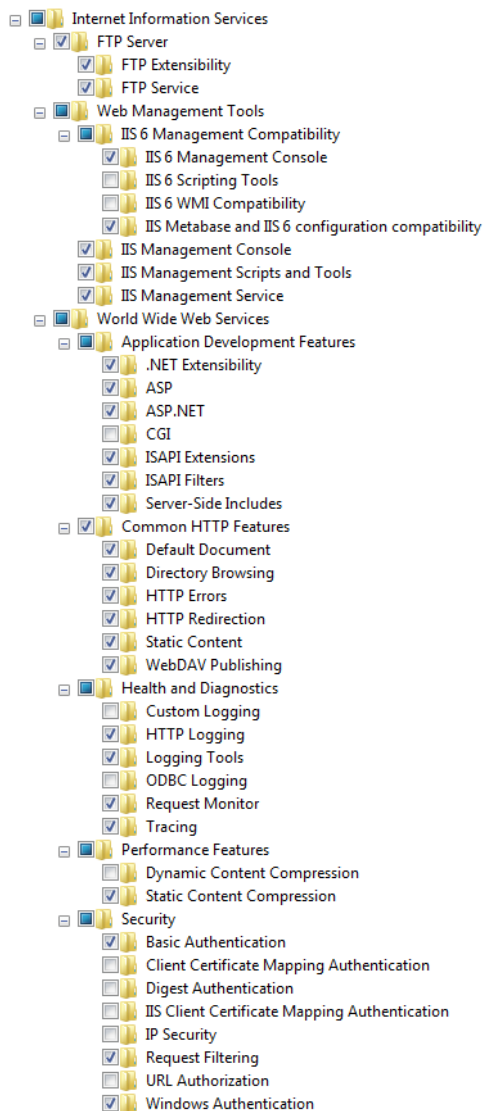

Figure 9. IIS Configuring IIS Components on Windows 7.
6. Make the settings as shown in Figure 9. For detailed instructions for making the settings continue with Step 7.